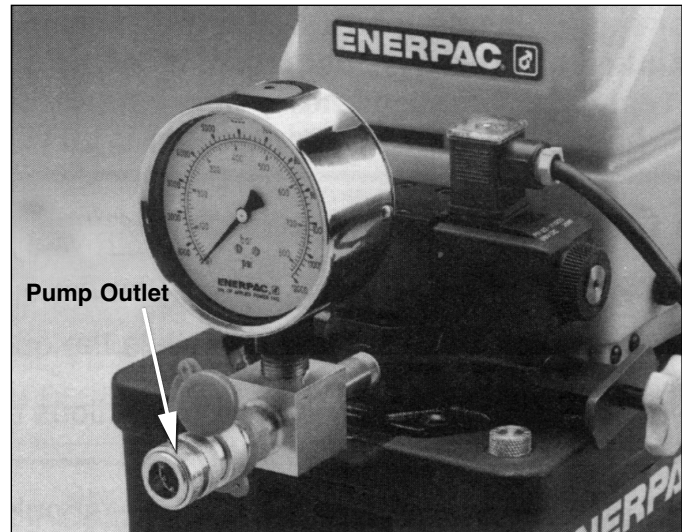

Figure 2 - Pump Outlet (Single-Acting)
1. Couple hose to pump outlet shown in Figure 2. BE SURE to use hose marked "ENERPAC 800 SERIES - 800 BAR/11,600 PSI MAX". Hand tighten coupler lock rings.